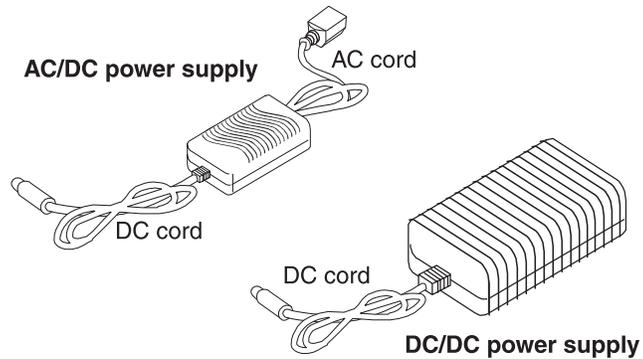

Figure 11: AC/DC and DC/DC power supplies
3. Assemble the power supply and connect it to the remote terminal. The supported power supplies are shown in Figure 11.
- b. Connect the AC power cord to the power supply. An assembled power supply is shown in Figure 11.
- a. Retrieve the DC/DC power supply kit (HNS part number 1036088-0001) that was shipped with the remote terminal. The kit contains the power supply (HNS part number 1033554-0001) and a DC input cable kit. The input cable kit contains an input power connector, connector pins, and a wiring diagram; the input cable kit does not include wire. The DC/DC power supply is shown in Figure 11.